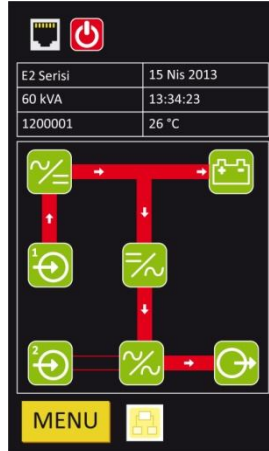

Figure-49 Battery Charger On
- After the UPS switches to online mode, battery charger will be active and mimic diagram will be seen as figure-49.